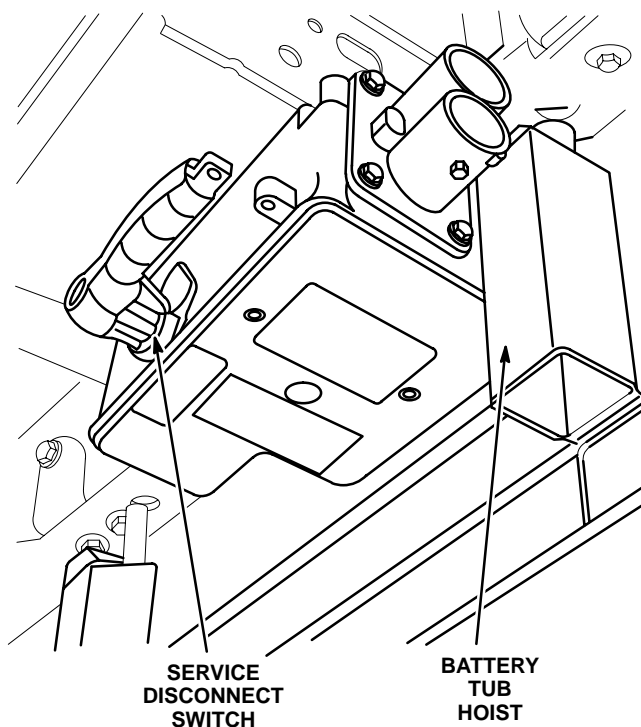

Fig. 12 Service Disconnect Switch
- (1) Disable traction battery pack by turning the service disconnect switch to Off (Fig. 12).